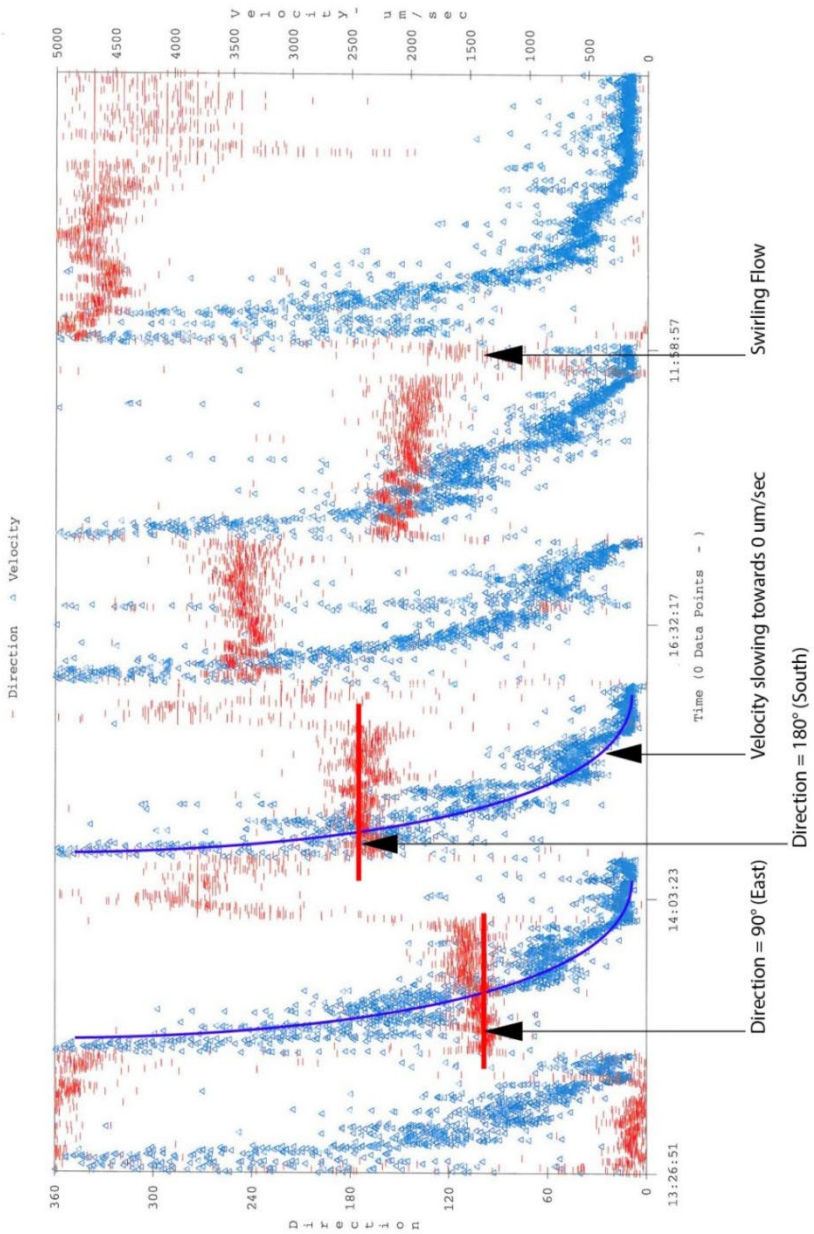

Figure 3-3: Bucket Test Data Report
- Swirl the water in the bucket clockwise, and place the Borescope in the water against the north side of the bucket for at least 20 minutes. Using the Graph View, observe the colloidal particles moving towards the east (90°), and observe the velocity decreasing as the water slows down and the particles begin to swirl in multiple directions. When viewing the graph, you should see a decrease in velocity as the water slows down, and the direction lines should start to represent swirling flow (Figure 3-3).